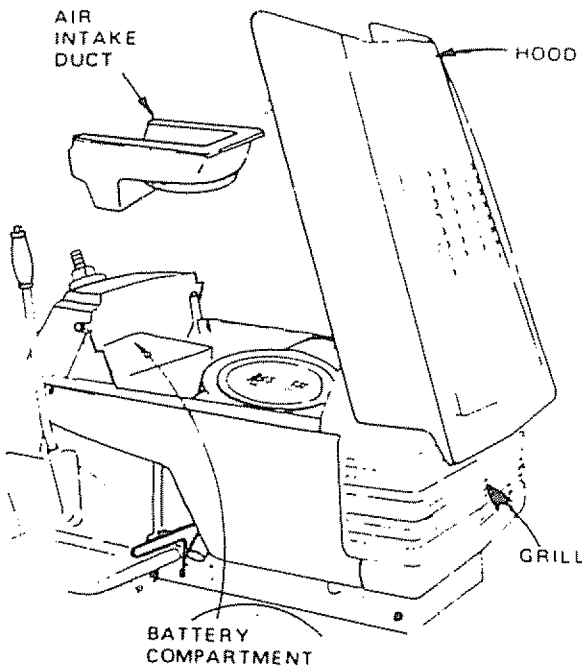

FIGURE 4
- a Lift hood from rear sides (Fig 4)
- i. Replace air intake duct (Fig. 4). Make sure bottom lip of duct sits between battery and lip of battery tray.